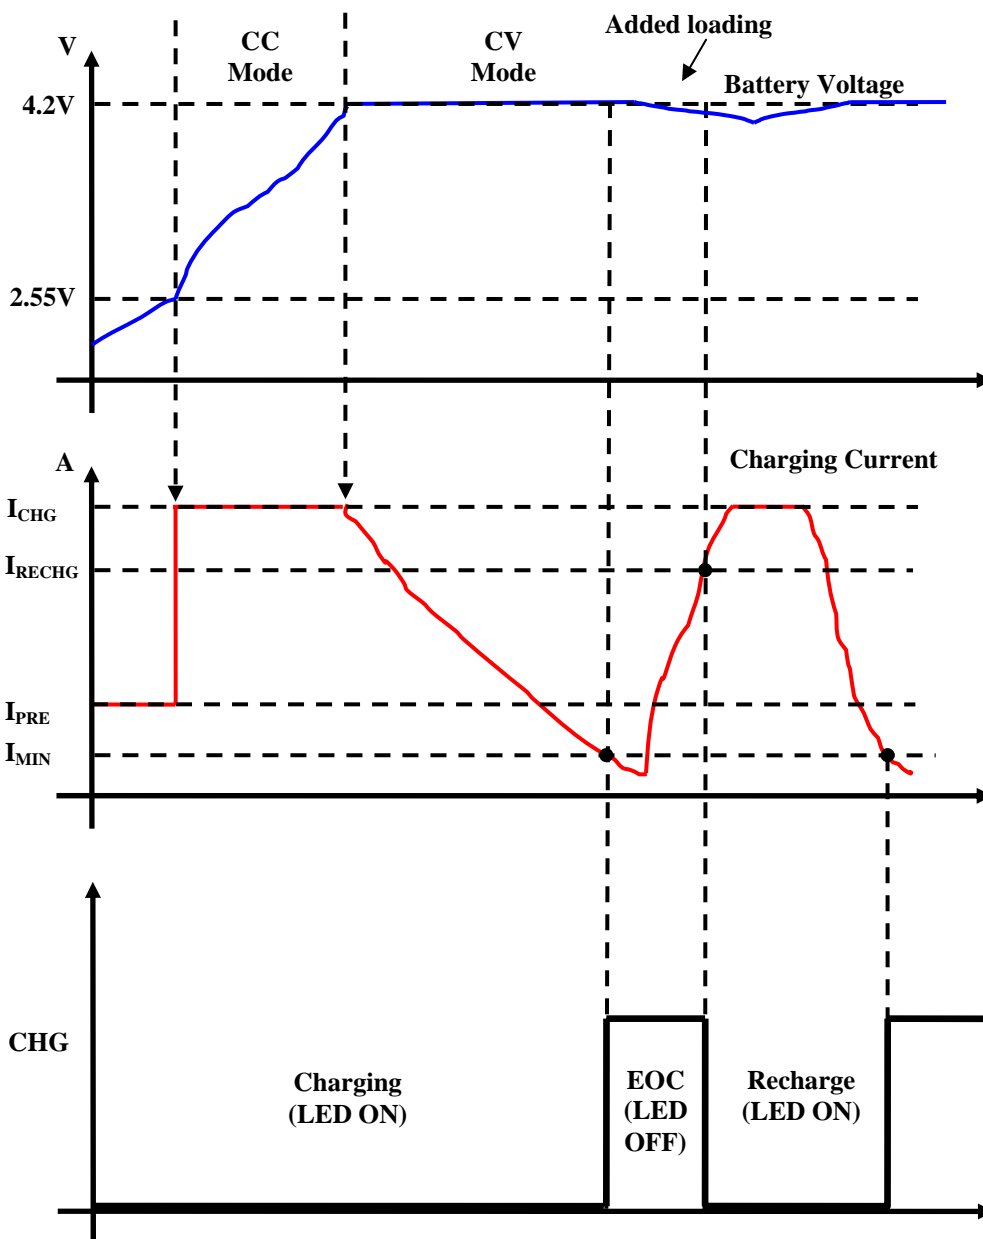
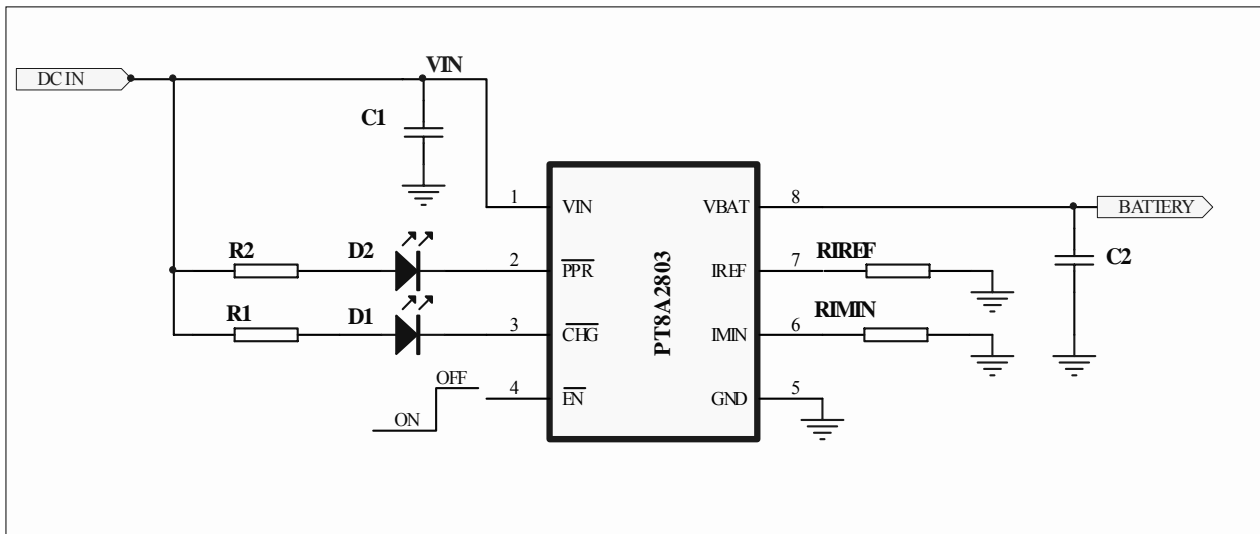
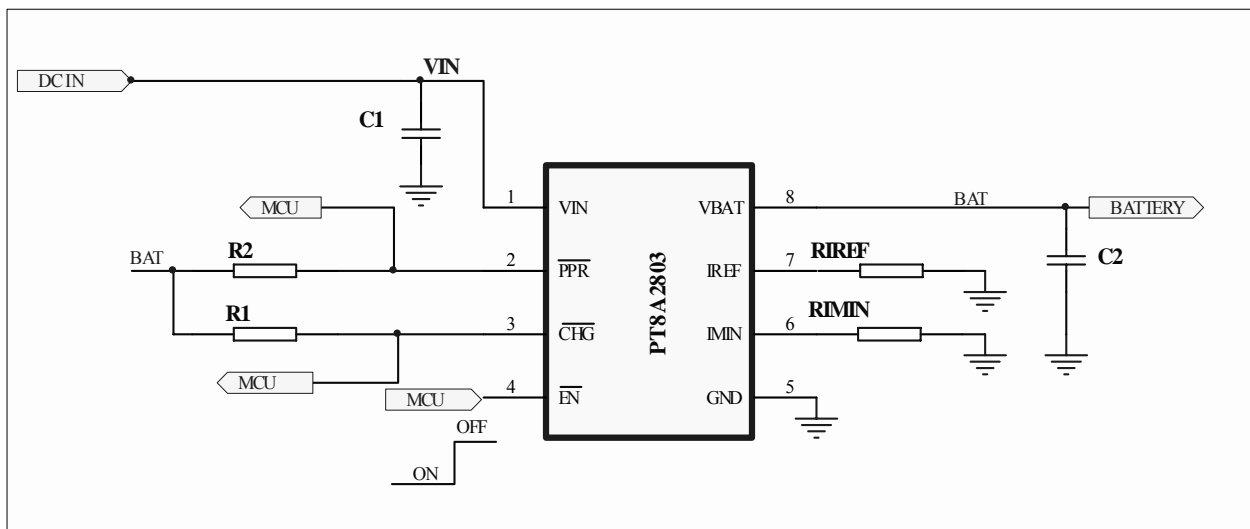

Figure 2 PT8A2803 Typical Charge Profile
Figure 3 PT8A2803 Typical Application Circuit to Indication LEDs
Figure 4 PT8A2803 Typical Application Circuit Interfacing to a MCU
The PT8A2803 charges a single-cell Li-ion/Polymer battery with a programmable constant current (CC) or a constant voltage (CV) algorithm. The fast charge current (ICHG) can be programmed by setting an external resistor R_{IREF} (see **Figure 3/4**) while constant voltage is factory-trimmed at 4.2V (4.1V or 4.36V) options area available upon request). If the battery voltage was deeply discharged to lower than 2.55V, PT8A2803 firstly pre-charges the battery with 20% of the programmed fast charge current. Normally, the battery voltage rises gradually during CC charge phase. When the battery voltage reaches almost 4.2V, the charger enters the constant-voltage (CV) charging mode and begins to regulate the battery voltage at 4.2V while diminishing the charging current gradually. When charging current is reduced to an amount smaller than the programmed End-Of-Charge (EOC) current level, the charger gives out a “full-charge” indication through the $\overline{\text{CHG}}$ pin, but the charger still continues to regulate the battery voltage at 4.2V with safe & small current. **Figure 2** shows the typical charge profile with the EOC/reset event.
PT8A2803 employs current recharge algorithm. The end-of charge (EOC) current level can be easily programmed with an external resistor R_{IMIN} (see **Figure 3/4**). The $\overline{\text{CHG}}$ signal turns to LOW when pre-charge starts and rises to HIGH when EOC is reached. After reaching EOC, the charge current has to rise to typically 76% ICHG before the $\overline{\text{CHG}}$ signal will turn on again, as shown in **Figure 2**. The current surge after EOC can be caused by a load connected to the battery.
The $\overline{\text{PPR}}$ pin is implemented as an open-drain output to provide a power-good indication of the input power source such as an AC adapter. When the input voltage is higher than the POR (Power-On Reset) threshold, the $\overline{\text{PPR}}$ pin turns on the internal open-drain MOSFET to indicate a logic LOW signal. The $\overline{\text{PPR}}$ indication is designed to be independent on the chip enable ($\overline{\text{EN}}$ -pin) input. When the internal open-drain FET is turned off, the $\overline{\text{PPR}}$ pin should leak less than 1 μ A current. When turned on, the $\overline{\text{PPR}}$ pin should be able to sink at least 10mA current under all operating conditions. The $\overline{\text{PPR}}$ pin can be used to drive an LED (see **Figure 3**) or worked as logic interface to a microprocessor (see **Figure 4**).
Component Description for Figure 3
Component Description for Figure 4